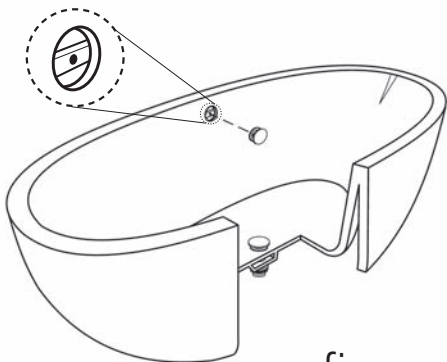

figure 17
24. Then, align the Overflow Cover with the Bar (installed at the factory) in the overflow hole (figure 17).